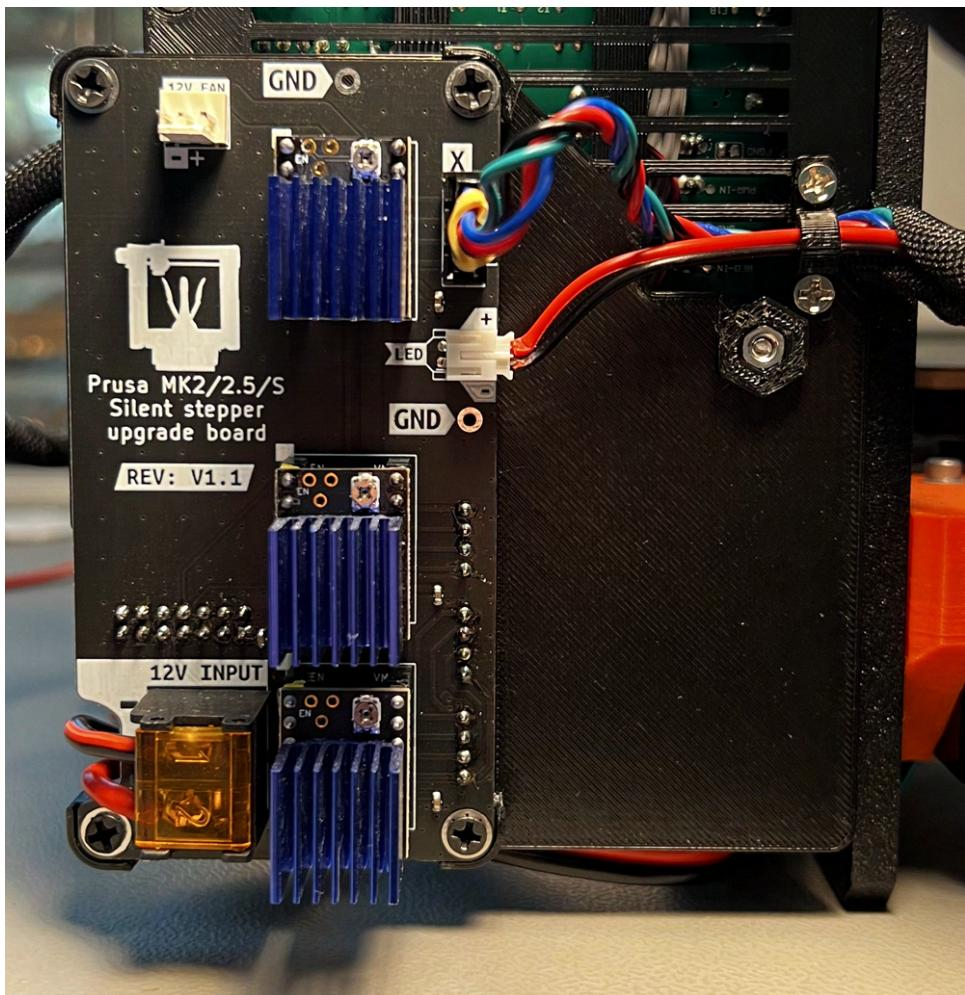

Figure 9: View of front of upgrade board for X, Y and Z installation, with the optional X-axis LED light.
You can now mount the upgrade board with 4 of the included threaded screws. You can then install the power cable in the correct orientation, motor cables, data cable, X-axis strain relief and stepper drivers. I suggest installing the drivers without heat-sink as it will be easier to adjust the vref later. The result at this stage should look like Figure 9 except for the heat sinks.
5. Lastly, add the cable to the cable sleeve and connect it to the LED port located next to the X-axis motor connector, as depicted in Figure 9. Please note that you should use the larger strain relief holder on the upgrade board and double check that the red wire is towards the + sign on the board.